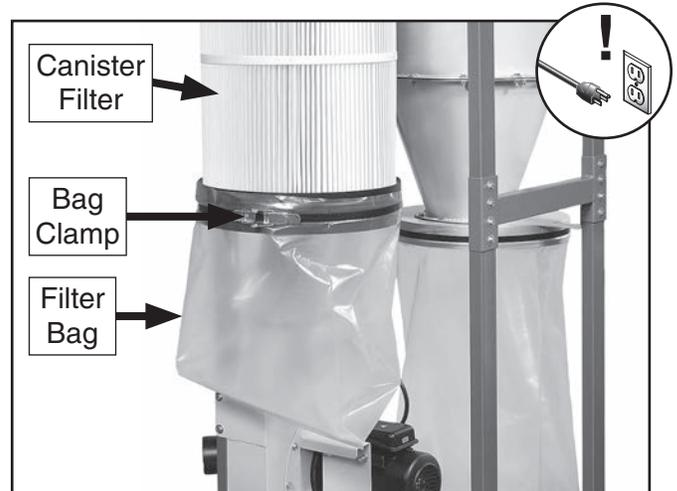

Figure 61. Filter bag components.
2. Release bag clamp on canister filter (see **Figure 61**).